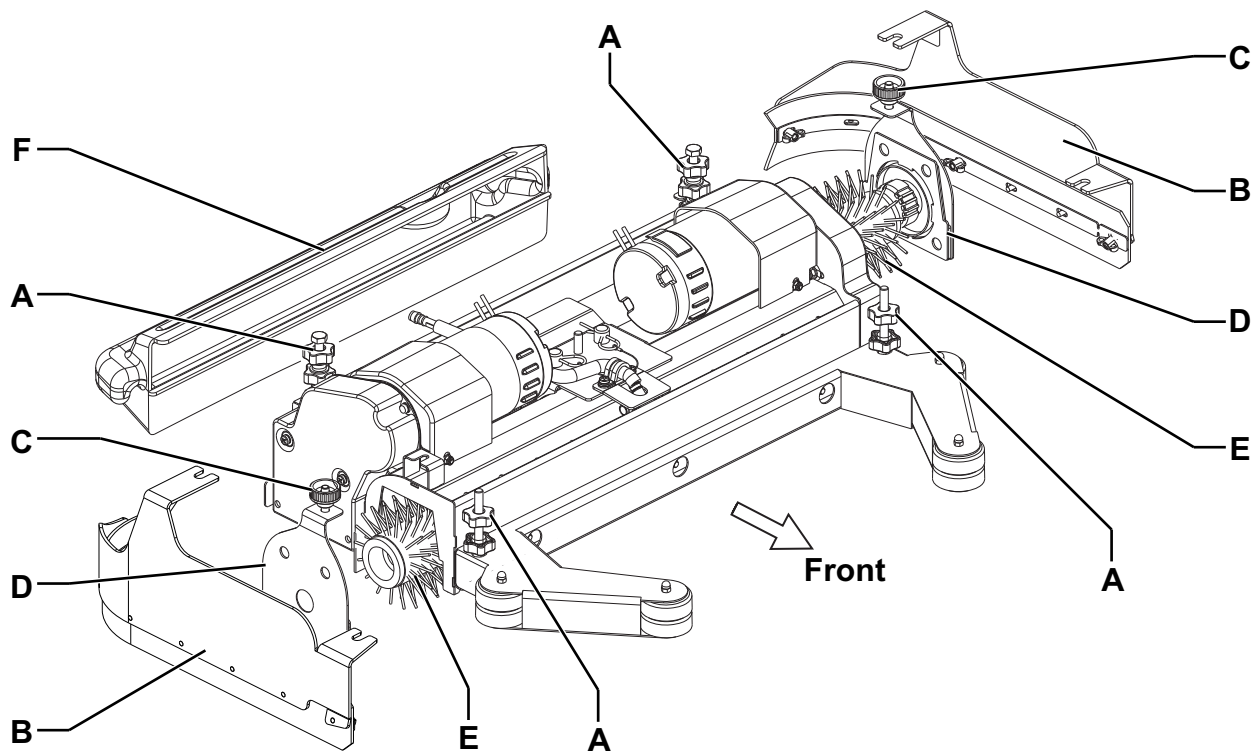

Figure 2
2. Lift the deck by pressing the switch (67).
3. Turn the ignition key (58) to "O" and remove it.
4. On both sides of the machine, unscrew the knobs (A, Fig. 2) and remove the side skirt assemblies (B).
5. Unscrew the knobs (C) and remove the lids (D) by pushing the knobs downwards.
6. Install the cylindrical brushes (E), or remove them to install new ones.